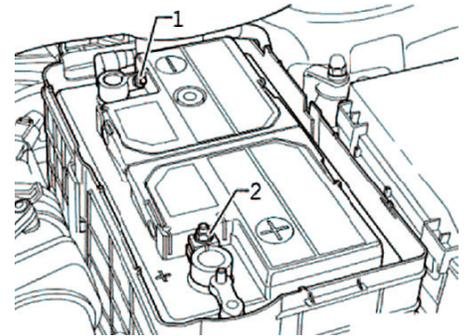

Fig. 2 Battery cable removal
6. Loosen and remove battery ground cable (1), **Fig. 2**.
7. Loosen and remove battery positive cable (2), **Fig. 2**.
5. Install battery positive cable (1), and **torque** bolt to 53 inch lbs., **Fig. 2**.
6. Install battery ground cable (1), and **torque** bolt to 53 inch lbs., **Fig. 2**.